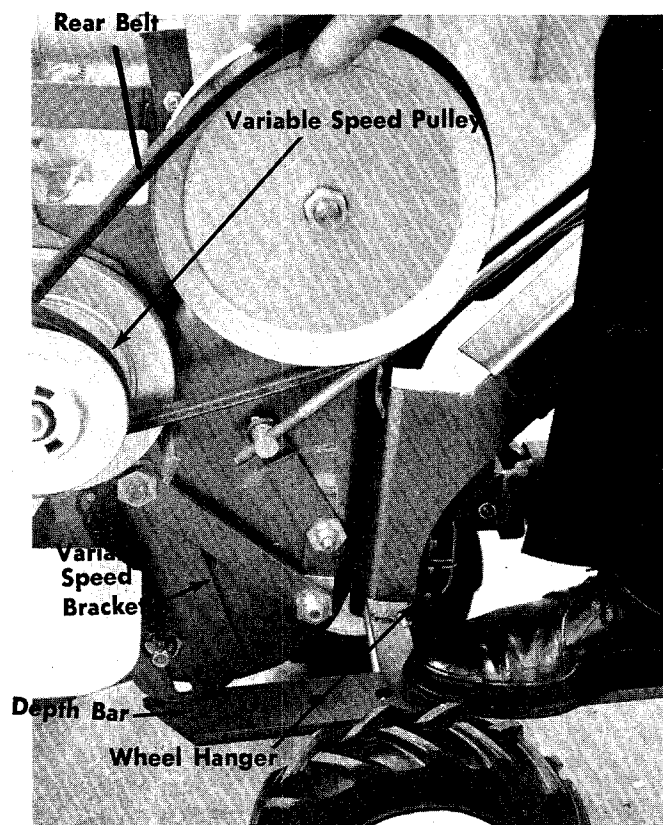

FIGURE 10. BELT REMOVAL
To check the belt adjustment, it is necessary to remove the belt cover so the belts are exposed as shown in figure 10.
Step 1. Remove the belt cover so the belts are exposed as shown in figure 10.
Step 2. Put the depth bar on the wheel hanger and place the tip of the depth bar under the variable speed pulley bracket as shown in figure 10.